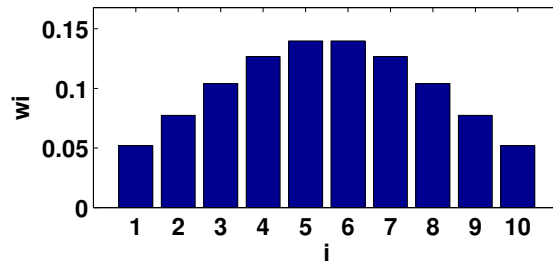

Figure 3.15: Example distribution for 10 rays using a Gaussian width of 0.5
- **gaussianWidth**: width of the Gaussian distribution of sensor ray weights (for "generic" and "infra-red" sensors). When averaging the sensor's response, the individual weight of each sensor ray is computed according to a Gaussian distribution as described in figure 3.14. where w_i is the weight of the i th ray, t_i is the angle between the i th ray and the sensor axis, a is the aperture angle of the sensor, g is the Gaussian width, and n is the number of rays. As depicted in figure 3.15, rays in the center of the sensor cone are given a greater weight than rays in the periphery. A wider or narrower distribution can be obtained by tuning the `gaussianWidth` field. An approximation of a flat distribution is obtained if a sufficiently large number is chosen for the `gaussianWidth`. This field is ignored for the "sonar" and "laser" DistanceSensor types.